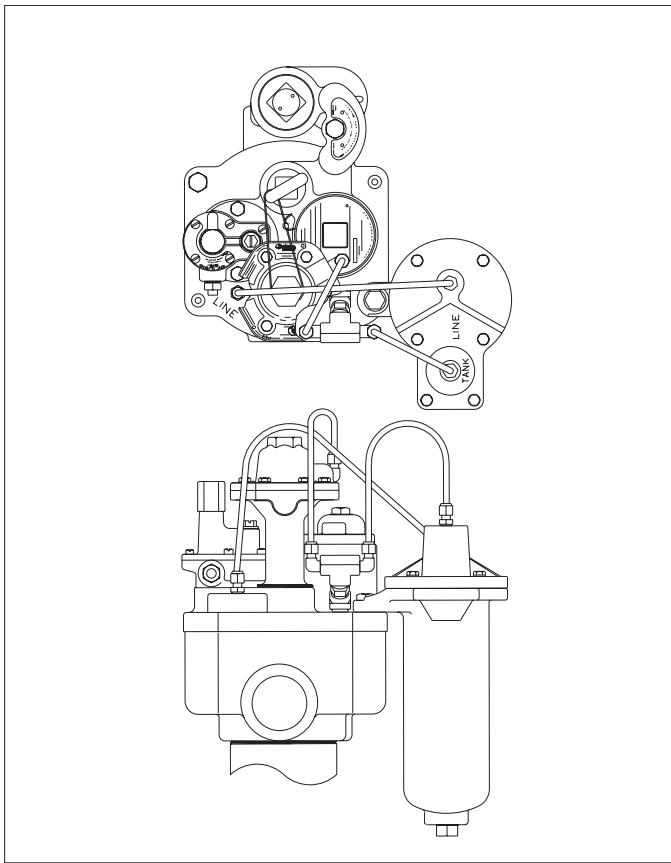

Figure 2
Apply U.L. classified non-toxic pipe thread sealant to the threads on two 90-degree elbows. Install elbows into remaining openings of female tee, see figure 2.
- b. If using in conjunction with a FX1V, FX1DV, XLP or PLD leak detector, install tubing as shown in figure 2.